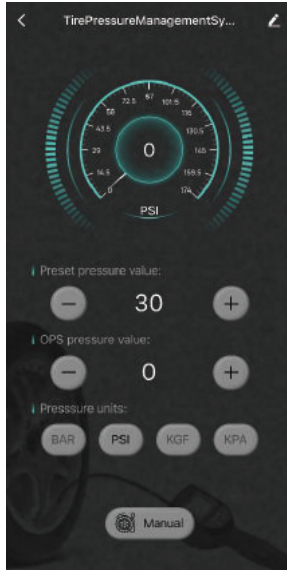

Fig. 10
- 1) Enter the operation interface, you can use the phone to set the target pressure value. (See Fig. 10)